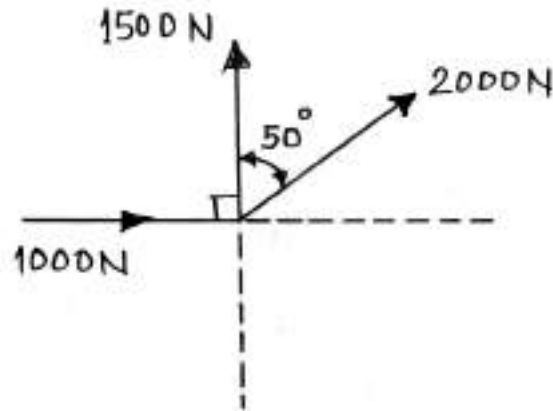

Fig. No. 2.
- a) Find the resultant force in magnitude and direction for the force system shown in Fig. No. 2. Use analytical method.
- b) Find graphically the resultant force in magnitude and direction for the force system shown in Fig. No. 2.